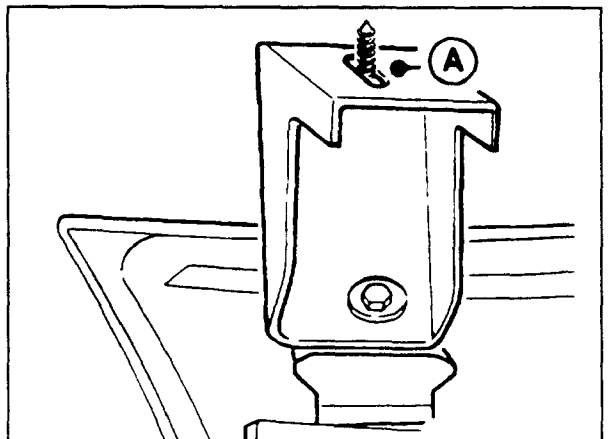

Figure 12
4. Loosen bolt (A, Figure 12) on side of bumper.